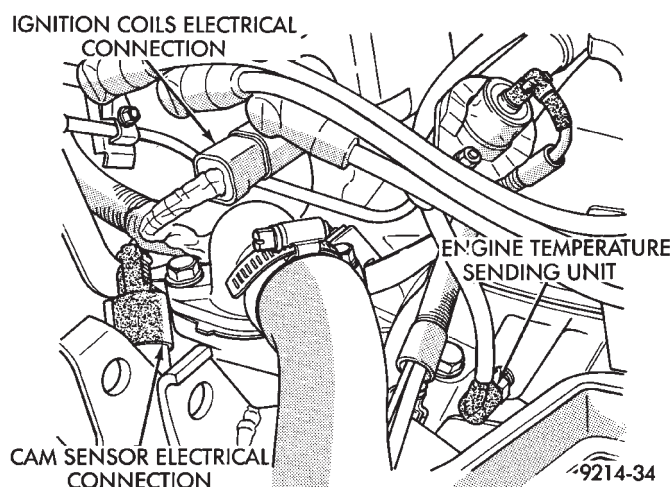

Fig. 6 Ignition Coil Electrical Connection
(1) Remove the ignition cables and measure the resistance of the cables. Resistance must be between 3,000 to 12,000 ohms per foot of cable. Replace any cable not within tolerance.
(2) Disconnect the electrical connector from the coil pack (Fig. 6).